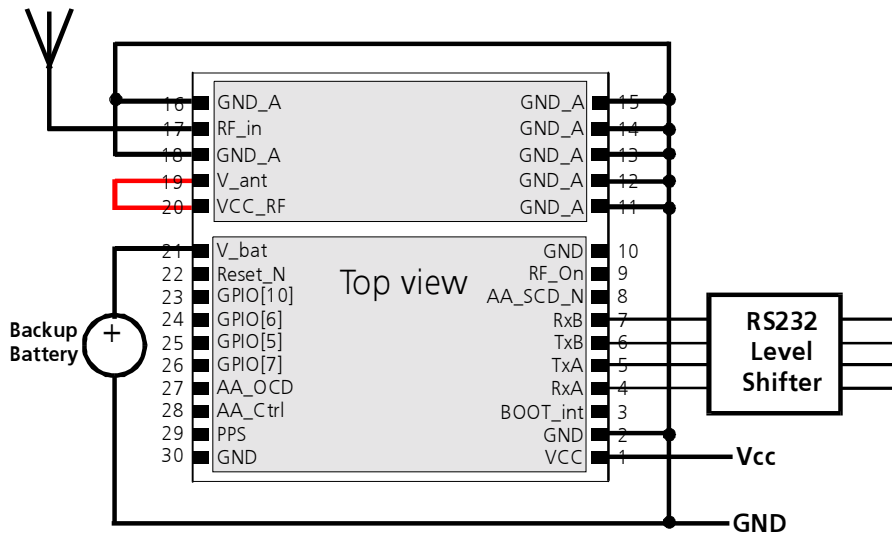

Figure 5: Minimal External Wiring, with Internal Antenna Power
**VCC\_RF** can be used to power an external active antenna (**VCC\_RF** connected to **V\_ANT**) if the antenna consumes less than  $I_{rf\_out}$  and supports an input voltage of  $V_{cc\_RF} - V_{ant\_drop}$  (Figure 5).